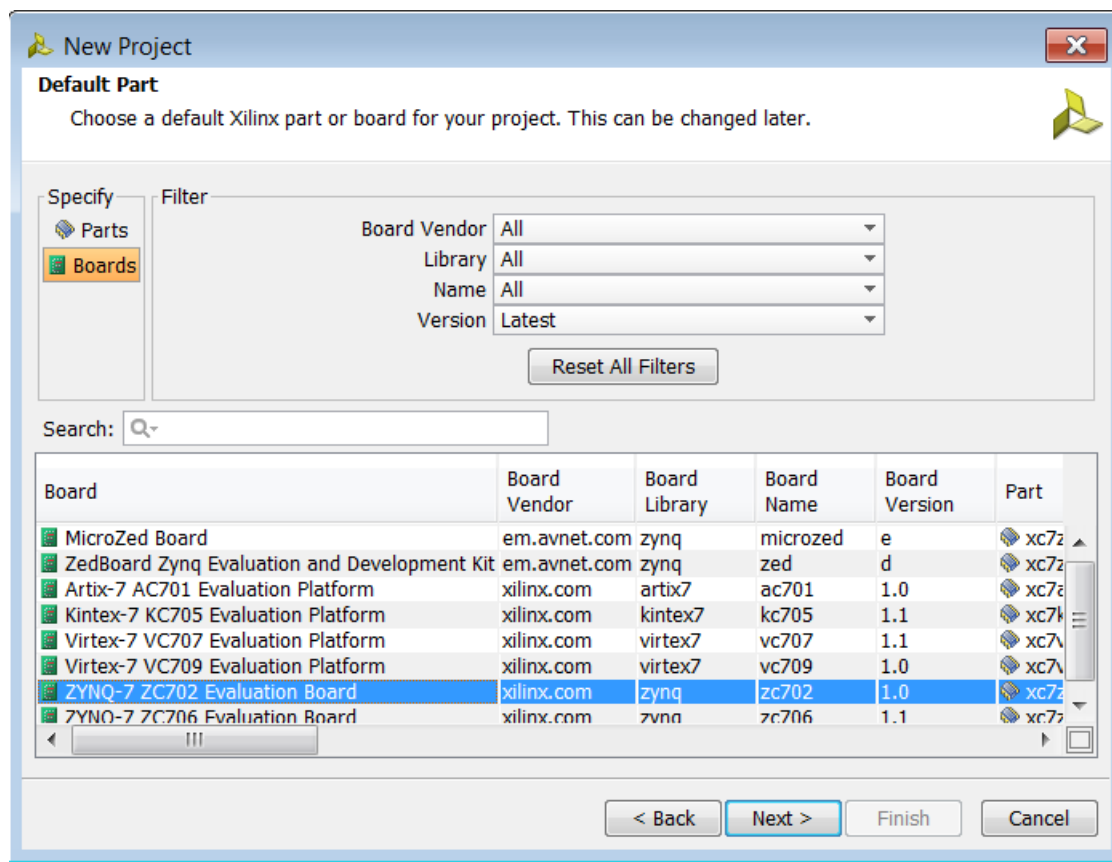

Figure 187: Vivado Project Specification
6. On the Default Part page, under Specify, click **Boards** and select the **ZYNQ-7 ZC702 Evaluation Board**, as shown in Figure 187.